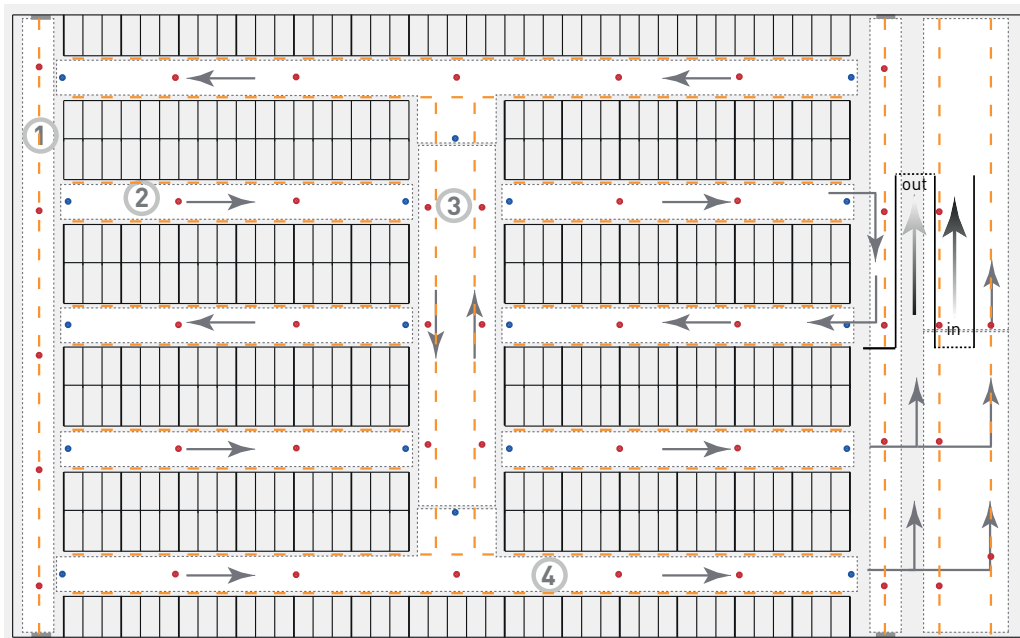

Figure 9:
Parking bay areas (see figure 9, areas 1 and 3) and crossways (figure 9, areas 2 and 4) are switched individually. In particular,
- 62 DALI devices (see figure 9).
- For driveways of **type 1** and of **type 3** as well as the 6 parking bay areas of **type 2**, all luminaires and sensors are each assigned to a group (see figure 9 on page 19).